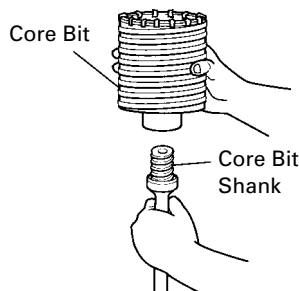

Fig. 15
(1) Mount the core bit to the core bit shank. (Fig. 15)